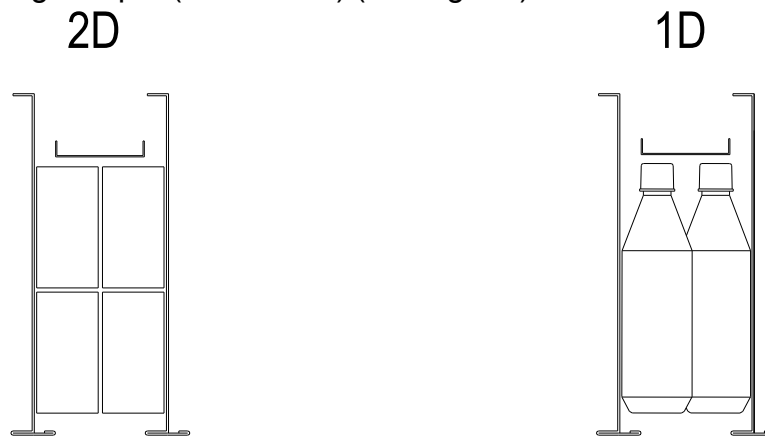
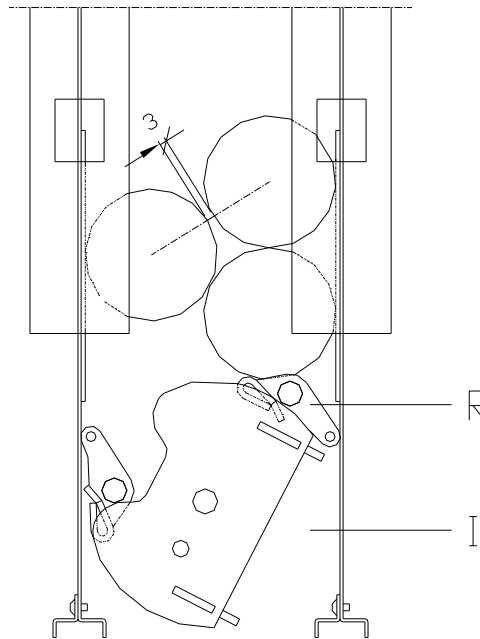

FIG.5.2 – EXAMPLE OF CHARGING
FIG.5.7
This mechanism can vend some packages stacked in double depth (**2D** column) (ref. Fig 5.7) and other in single depth (**1D** column) (ref. Fig 5.2)
Place the product on the shelf (R) as far forward as possible and, if the column is adjusted for 2D place the second of the row directly behind it. At this time there must not be any product on the bail (I) (rif. Fig. 5.7).
Check again, and adjust if necessary the back spacer (**P**), so that between it and the row of products just loaded there is a space of about 10 mm (rif. Fig. 5.7).